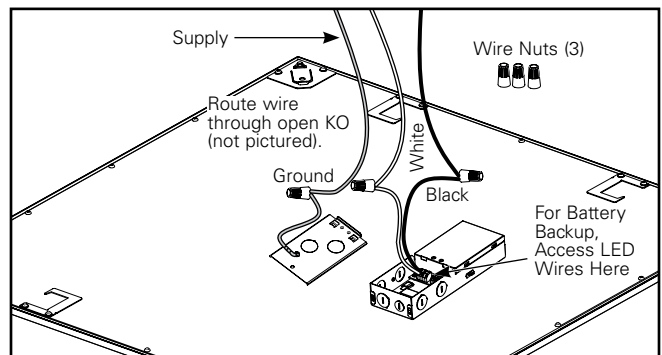

Figure 5.
7. Using the open knockout bring in the supply line. Using the three provided wire nuts to attach the ground wire to the ground supply wire, the black (line) wire to the black supply wire, and the white (neutral) wire to the white supply wire. (Figure 5.)
Note: This fixture is compatible with battery backup systems including the Suralites EBPLED7W and EBPLED14W. If using a battery backup system remove driver cover plate to access LED load wires and follow battery backup wiring instructions (Figure 5). Ensure driver cover plate is reinstalled after wiring.